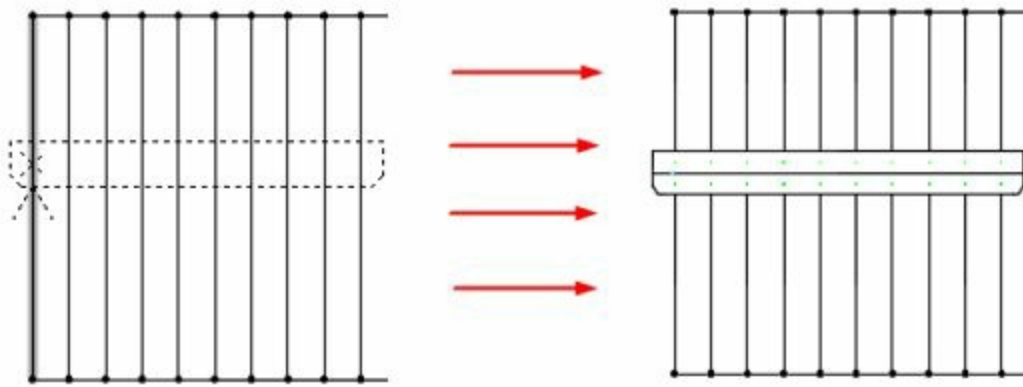

Figure-14. Placing connectors on a ladder
- Click in the drawing area to place the connector. If you click on the ladder's wire then the pins of connector will automatically adjust according to the ladder; refer to Figure-14.